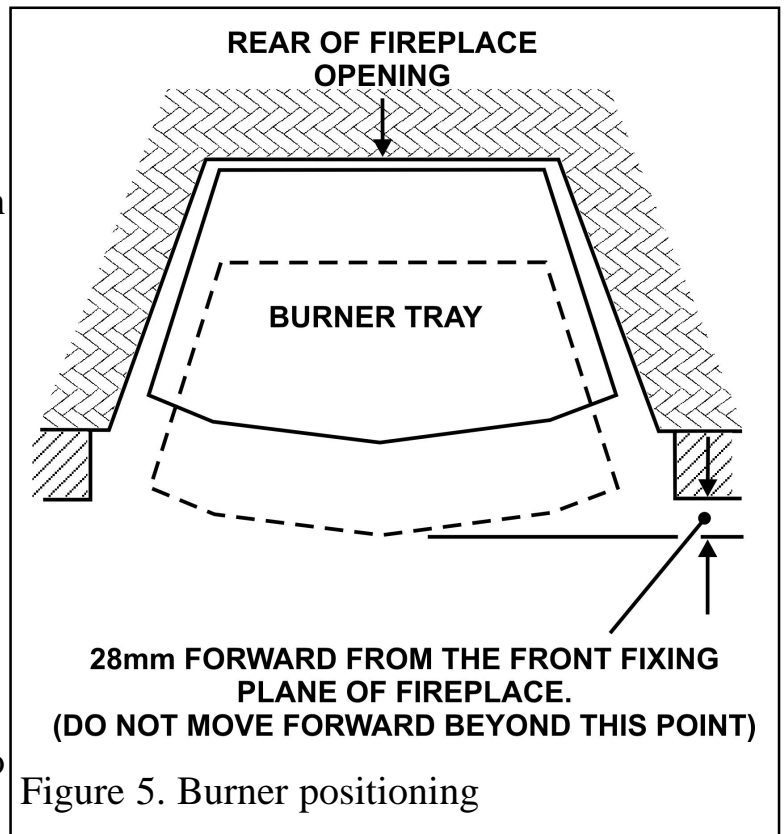

Figure 5. Burner positioning
- Place the burner unit centrally within the fireplace opening. Position the burner to the rear of the opening, this may be moved forward providing the front of the burner tray trim does not protrude beyond the front plane of the fireplace opening by more than 28mm (See figure 5).
- The casting may be moved forward providing the front of the burner tray trim does not protrude beyond the front plane of the fireplace opening by more than 28mm (See figure 5).